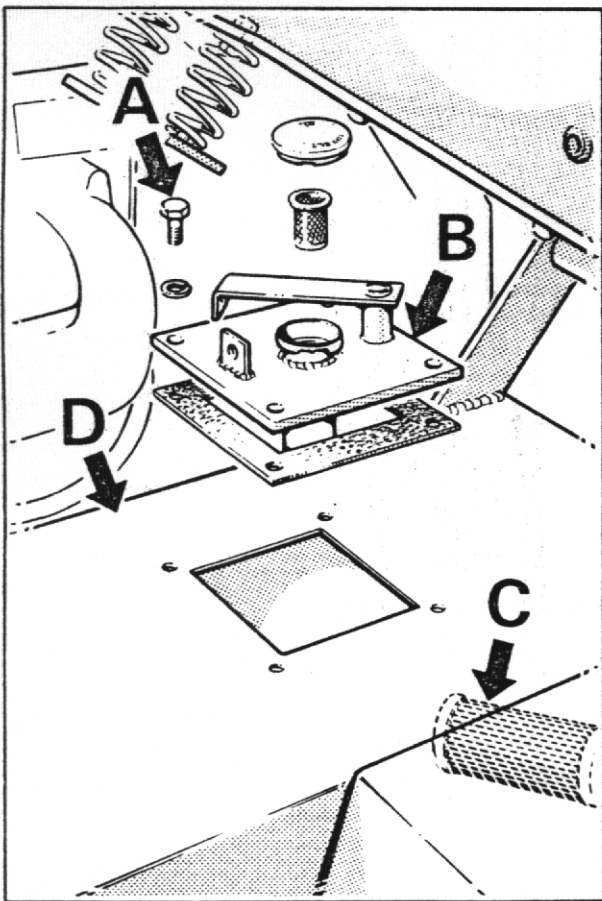

FIG. 8
2. Check that hydraulic filter is not blocked. (See Fig 8)
- a) Remove the four setscrews (A) that secure the filler cap assembly (B) and remove assembly.
- b) Unscrew suction filter (C) from inside tank (D) and wash in white spirit. Dry with moisture-free compressed air.